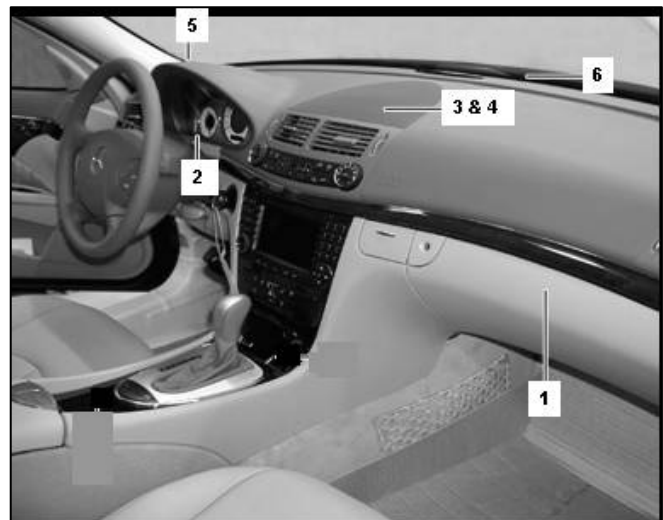

Figure 1
- A. Rattling noises at glove compartment lid (1, Figure 1)
- B. Noises in the area of the instrument cluster frame (2, Figure 1)
- C. Buzzing noises in the area of the centerfill (3, Figure 1)
- D. Buzzing noises in the area of the centerfill (4, Figure 1)
- E. Creaking/knocking noises in the area of the A-pillar (5, Figure 1)
- F. Rattling noise in the area of instrument panel, center/windshield (6, Figure 1)